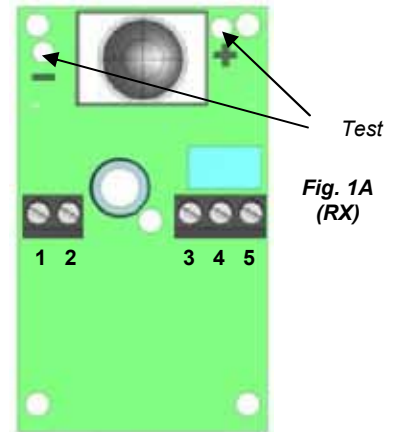

Fig. 1A (RX)
- Measure with a voltmeter the voltage at the receiver test-points (fig. 1A). This value varies in accordance with various parameters, among which the distance between the photocells. The lower the voltage value at the test-points, the better the alignment. Value can vary between 0 and 1,5 V. Optimum voltage should be between 0 and 0,2 VDC.